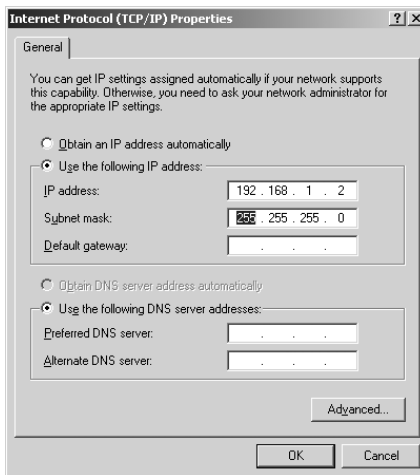

Figure 6: Internet Protocol (TCP/IP) Properties Window
5. Select **Use the following IP Address**¹, and fill in the details as shown in Figure 6.